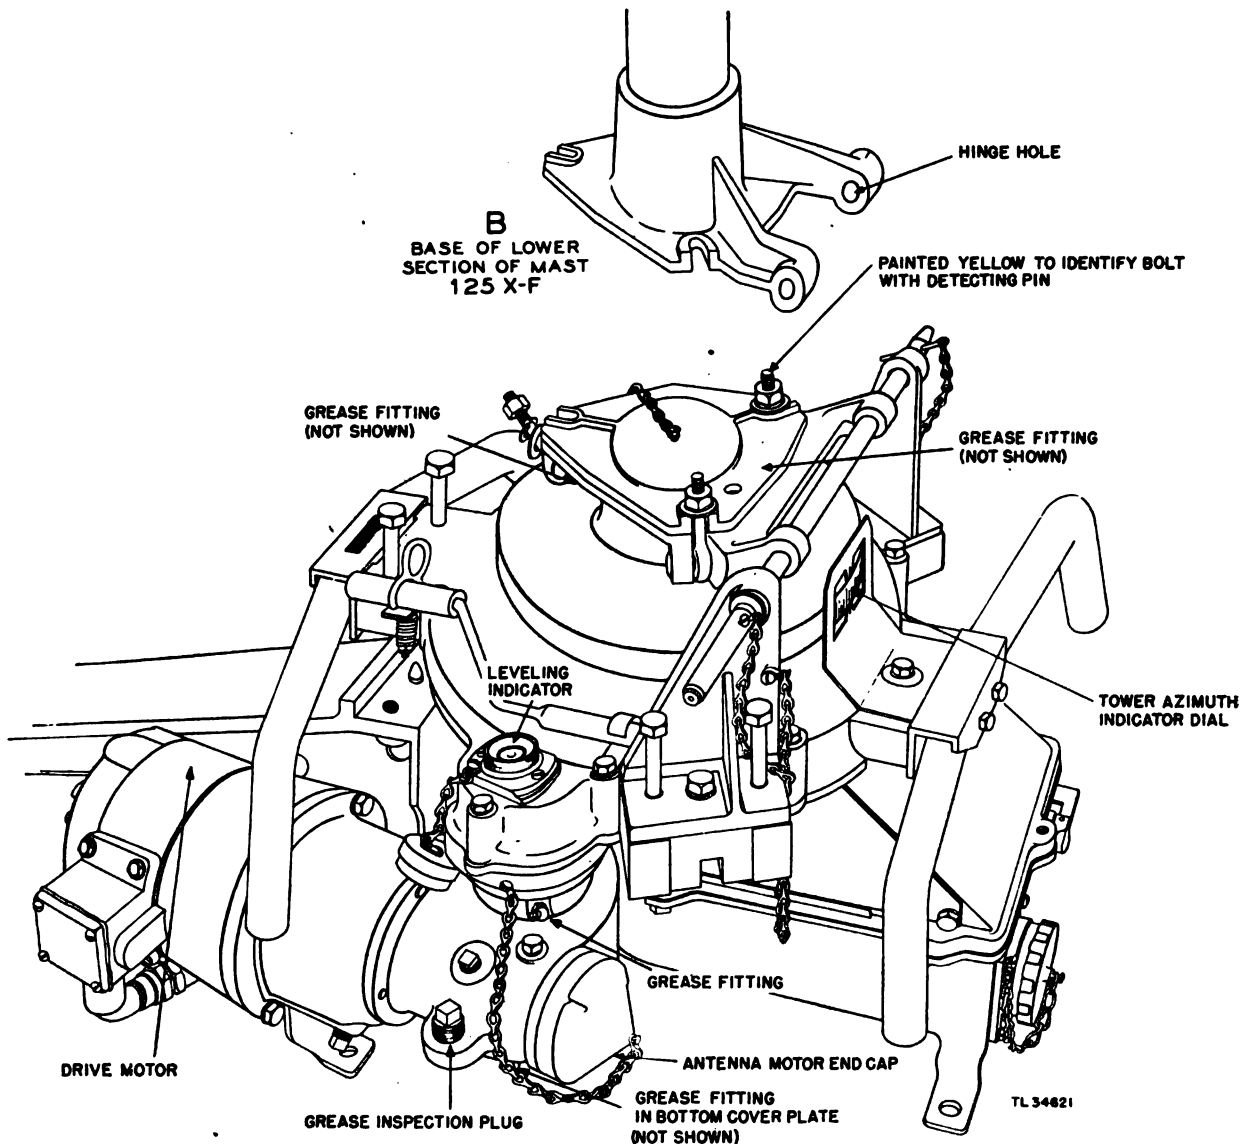

Figure 32. Gear case of Tower TR-24-A.
- (1) Azimuth dial and the level indicator for cleanliness. (See fig. 32.)
- (2) For chipped paint on tower.
- (3) The assembly bolts and screws for tightness.
- (4) The drive motor for general condition. (See fig. 32.)
- (5) The rotary coupling for cleanliness of contacts and proper cable connection. TM 11-1532 (when published) will give details for removing and inspecting the coupling.
L. LUBRICATE. (1) (Every 2 weeks). The tower-azimuth-indicator dial fittings (fig. 32) with the grease in the grease gun. Use grease, lubricating, special, Specification No. AXS-637.
(2) (Every month.) The gear box. (See fig. 32.) Remove the inspection plug on the small worm gear box on the gear case of the tower. If the grease is not up to the level of the plug, replenish by using the grease gun applied to the right-angle extension fitting located in the bottom cover plate. Use the grease in the grease gun as provided.
Caution: Always remove the inspection plug (fig. 32) when using the grease gun so as to vent the air trapped in the gear box and prevent building up excessive pressure.
- (a) Bottom of tripod center bearing. (See fig. 32.)